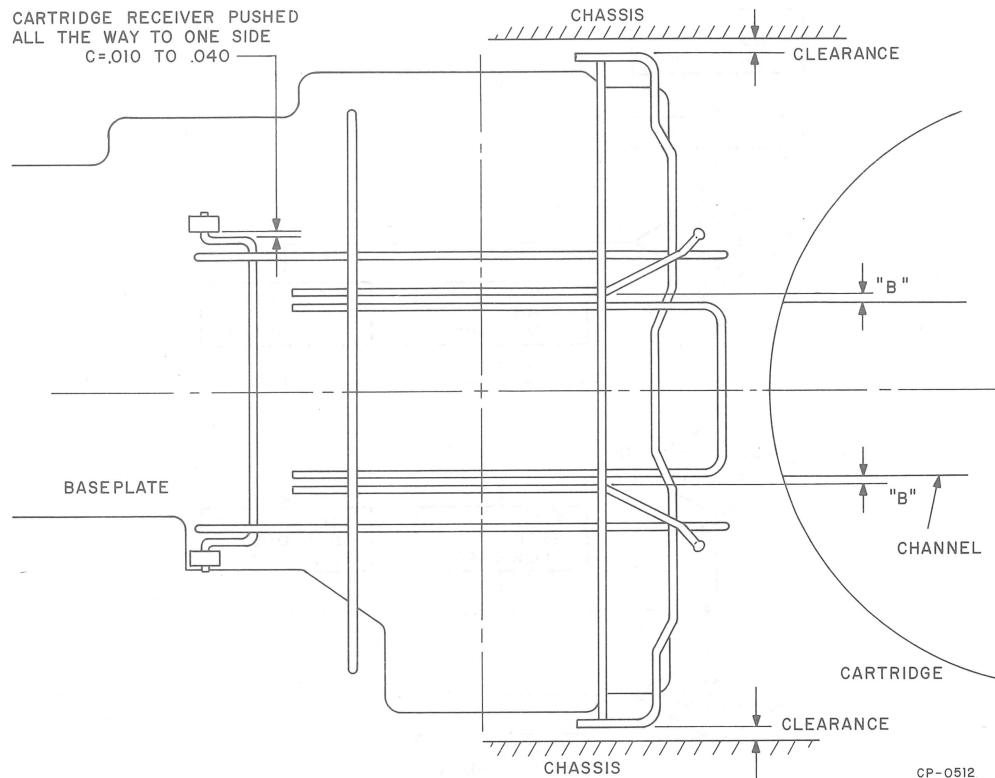

Figure 5-22 Cartridge Receiver Clearances
4. If the (A) clearance is incorrect, loosen the pivot post lock nuts and adjust the height of both posts to obtain the proper clearance.
5. Lightly tighten the pivot post lock nuts and check the following (Figure 5-22):
- a. Remove the cartridge and ensure that the clearances (B) between the upper receiver rails and the cartridge channel are equal, and that the receiver rails are as parallel as possible to the channel.
- b. Push the receiver all the way to one side and ensure that there is a slight clearance (C) of .010 to .040 in. between the pivot post and the receiver hinge rail. When making this check, do not push the receiver so hard that the pivot posts twist.